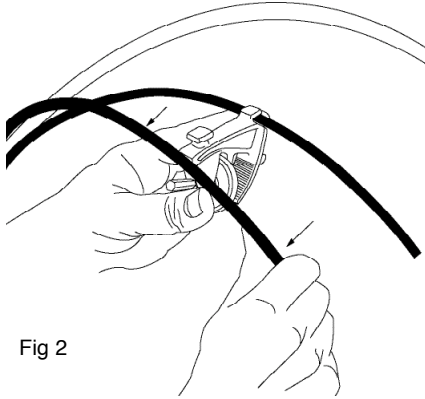

Fig 2
2. Unsnap the antenna from the back notch of the mounting clamp. See Fig 2.